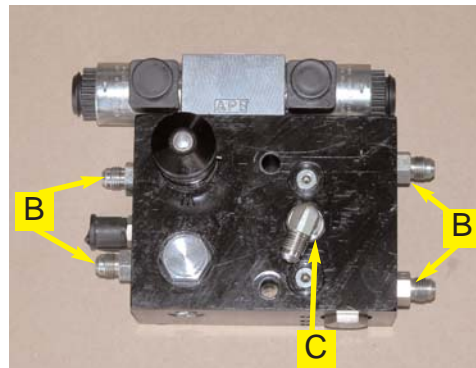

Figure 1. Prepared Automated Steering Block.
- b. Install the small elbow adapter fitting (C) in the LS port. (Figure 1.)
- c. Install the straight adapter fittings (B) in the A, B, P and T ports. (Figure 1.)